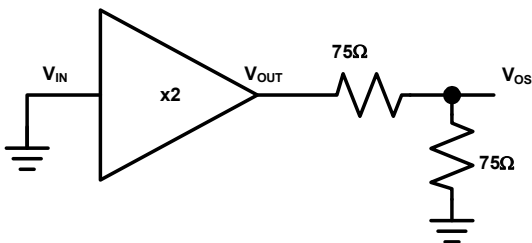

FIGURE 2. V0S MEASUREMENT CONDITIONS
- Offset measurements are referred to 75 $\Omega$  load as shown in Figure 2.